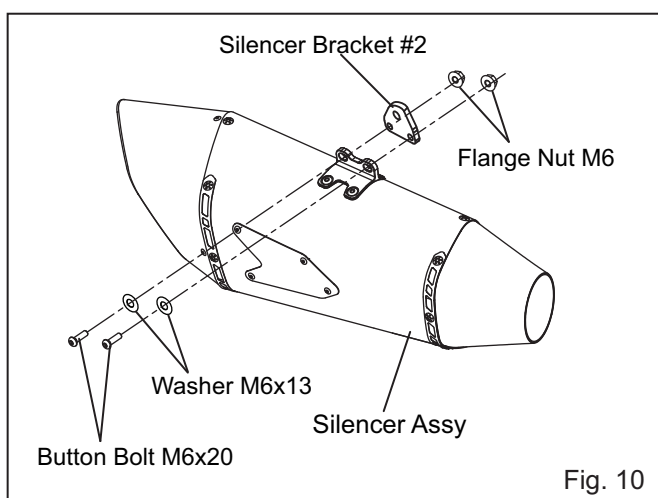

Fig. 10
- 8) Fix Silencer Bracket #2 on Silencer Assy using Button Bolt M6x20, Washer M6x13 and Flange Nut M6 (See Fig. 10).